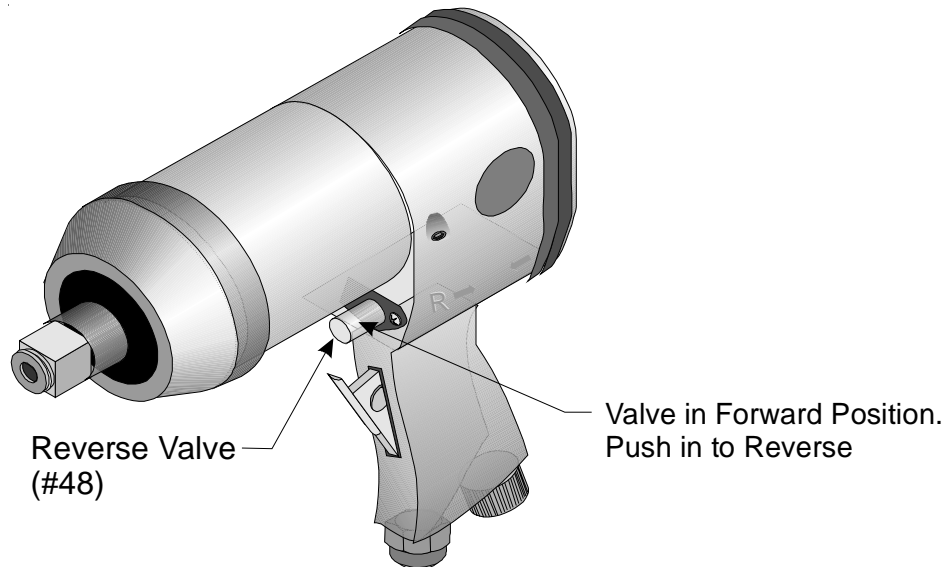

Figure 4 — Selecting Reverse Direction
Step 6: Select the direction of the Wrench (forward or reverse) by pushing the REVERSE VALVE (#48) located on the handle of the Impact Wrench as shown in Figure 4.